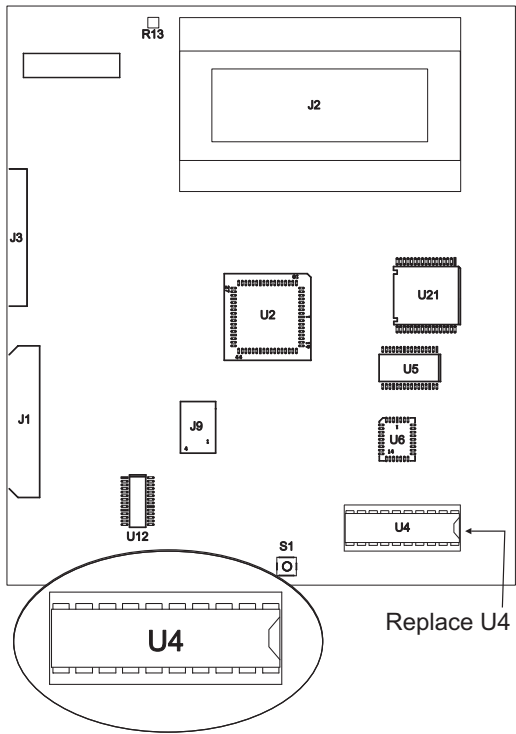

Figure 1
8. Remove the old IC(s) from its socket. (Refer to Figure 1 for the location of U4 on the MPC6-DB2 display board.) Do this by lifting one end of the IC slightly, then the other end. Continue this process until the IC comes free. Use a short, thin blade screwdriver for best results.